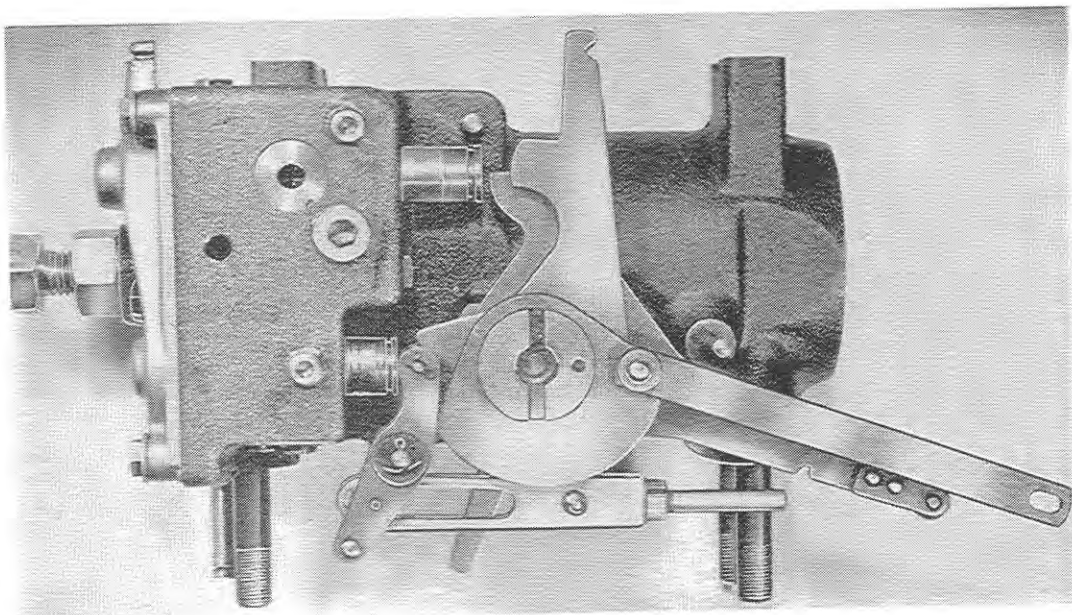

Fig. 13
- 2) Position the cylinder in the hydraulic cover, with the cams positioned as shown in Fig. 13.